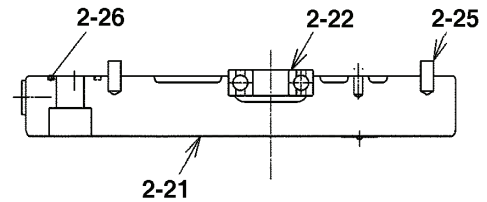

Figure 66
20. Apply grease to O-ring (2-26, Figure 66) and pin (2-25, Figure 66), then assemble them in cover (2-21, Figure 66).
Press fit ball bearing (2-22, Figure 66).